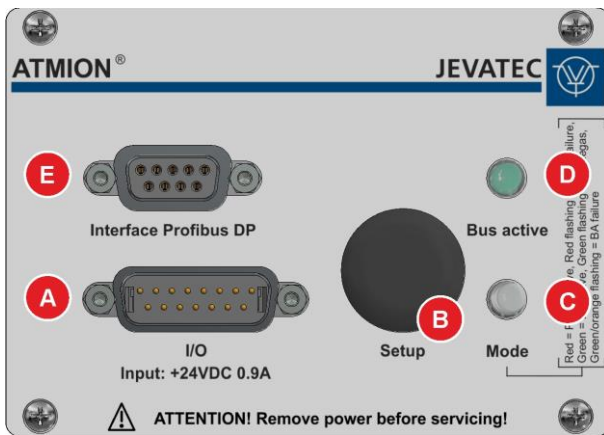
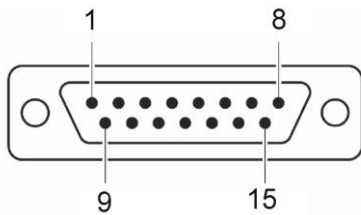
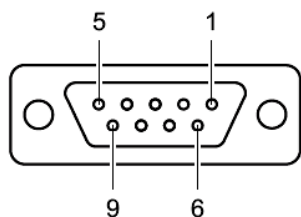

Figure 10 – Closed back of the device
Figure 13 – I/O connector (SUB-D, 15-pin)
Figure 14 – Connection socket Interface Profibus DP (SUB-D, 9-pin)
For further functional descriptions, please refer to the Figure 13, page 22.
Die Figure 10, page 21 shows the front side of the ATMION® Electronic Box, which is connected to the sensor by means of a plug system and union nut.
The Figure 10, Page 21 shows the back of the ATMION® Electronic Box in different states.
The connection I/O for power supply, analogue output, external control, relay output and serial interface RS232 (🔌📖 Figure 10, A, Page 21 and Figure 13, Page 22) combines all connections necessary for operating the vacuum gauge.
Voltages above 60 VDC or 30 VAC are dangerous to touch. They must not be connected to the contacts for external control and degassing (🔌📖 Figure 13, Page 22, PIN 1, 4, 5 and 6) only switch voltages of 24 VDC. This voltage must meet the requirements of a safety extra-low voltage (SELV-E) according to EN 61010.
The Profibus DP interface connection (🔗📖 Figure 10, E, Page 21 and Figure 14, Page 23) enables the device to be integrated into a Profibus-DP bus system. It is optionally available.
- Connect the connection of your JEVAmets® VCU-A0 or AM controller or the corresponding connections of the system via a shielded cable to the I/O connection ( Figure 10, A, Page 21) on the back of the ATMION®.
- The LED Mode ( Figure 10, C, Page 21) on the back of the ATMION® lights up according to the operating status ( Table 5, Page 23).